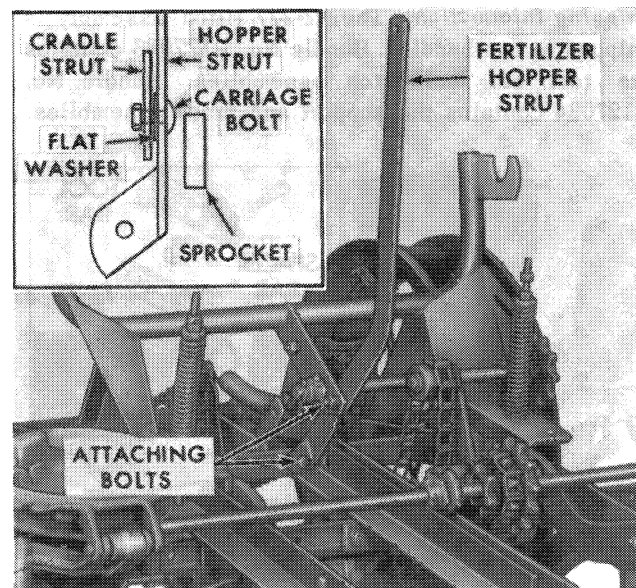
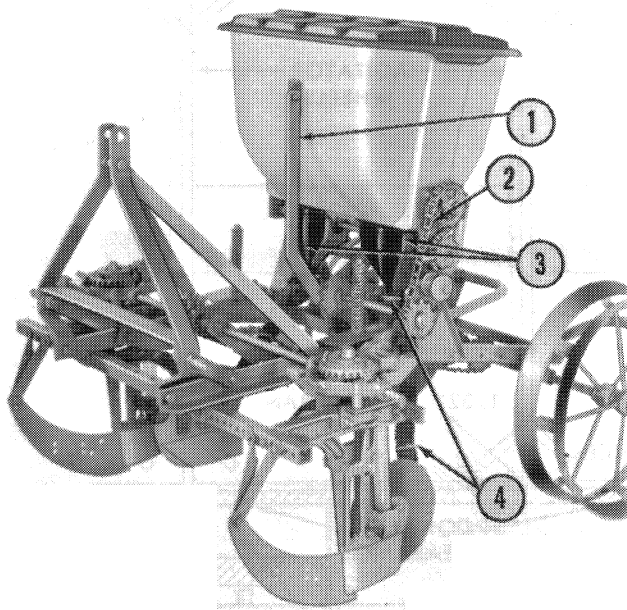
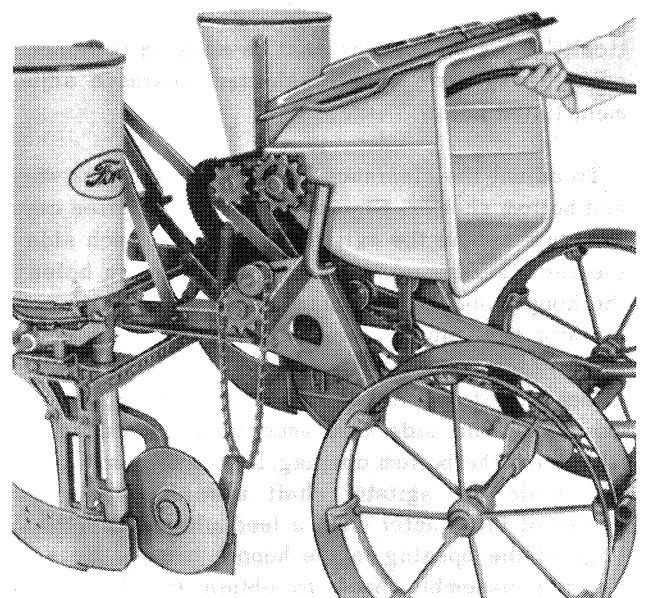

Figure 18
Figure 19
Figure 20
Using a $7/16'' \times 1''$ carriage bolt, secure the hopper strut to the cradle with a $7/16''$ flat washer between the hopper strut and the cradle strut as shown in the Insert, Figure 18. Attach the lower end of the hopper
strut to the planter frame with a $7/16'' \times 1-1/4''$ bolt. Figure 18 shows the fertilizer hopper strut installed. Position the fertilizer spouts (3), Figure 19, with the offset in the out position and attach to the hoppers with $5/16'' \times 1''$ carriage bolts, lock washers, and nuts. Lift the fertilizer hopper into place on the cradle and bolt it to the strut (1), Figure 19, with a $7/16'' \times 1''$ bolt, lock washer, and nut. Place the chain on the sprockets and idler pulley as shown at (2), Figure 19. Slide the rubber hoses over the fertilizer spouts and the disc opener boots and clamp them in place with the wire hose clamps (4).
easily rotated to a horizontal position for cleaning as shown in Figure 20. To do this, release the lower end of the fertilizer hoses, remove the chain (2), Figure 19, and remove the bolt that secures the hopper to the strut (1). The hopper can now be rotated into the position shown in Figure 20.